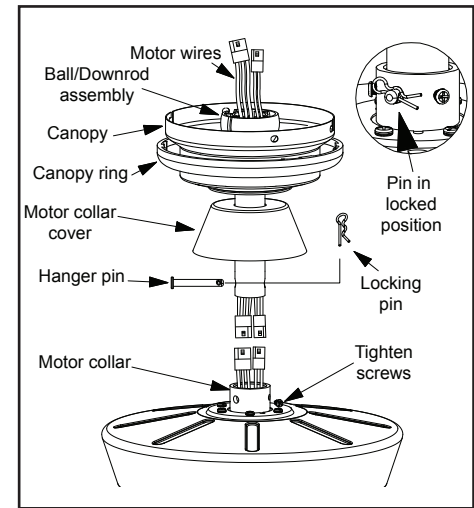

Figure 7
4. Place downrod over canopy and canopy ring, slide the motor collar cover onto the downrod. Connect the extension lead wires to the lead wires from motor. Make sure the quick connectors are clasped firmly. Route the wires through the ball/down rod assembly. (Figure 7)
6. Align the holes at the bottom of the downrod with the holes in the collar on top of the motor housing. (Figure 7) Carefully insert the hanger pin through the holes in the collar and downrod. Be careful not to jam the hanger pin against the wiring inside the downrod. Insert the locking pin through the hole near the end of the bolt until it snaps into its locked position, as noted in the circle inset of Figure 7.